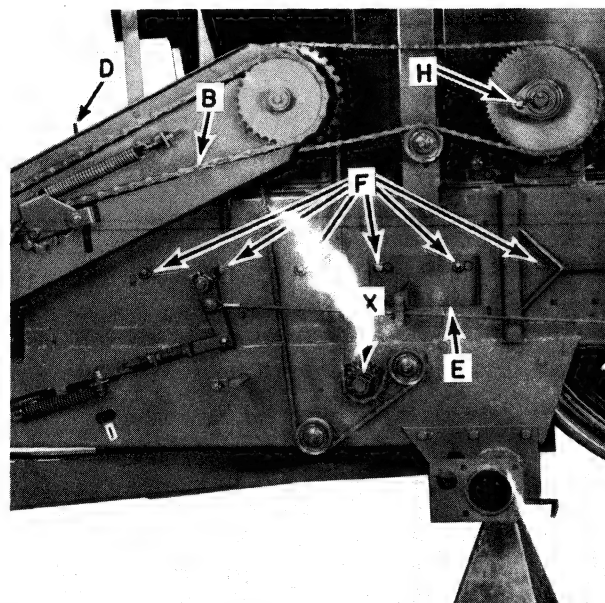
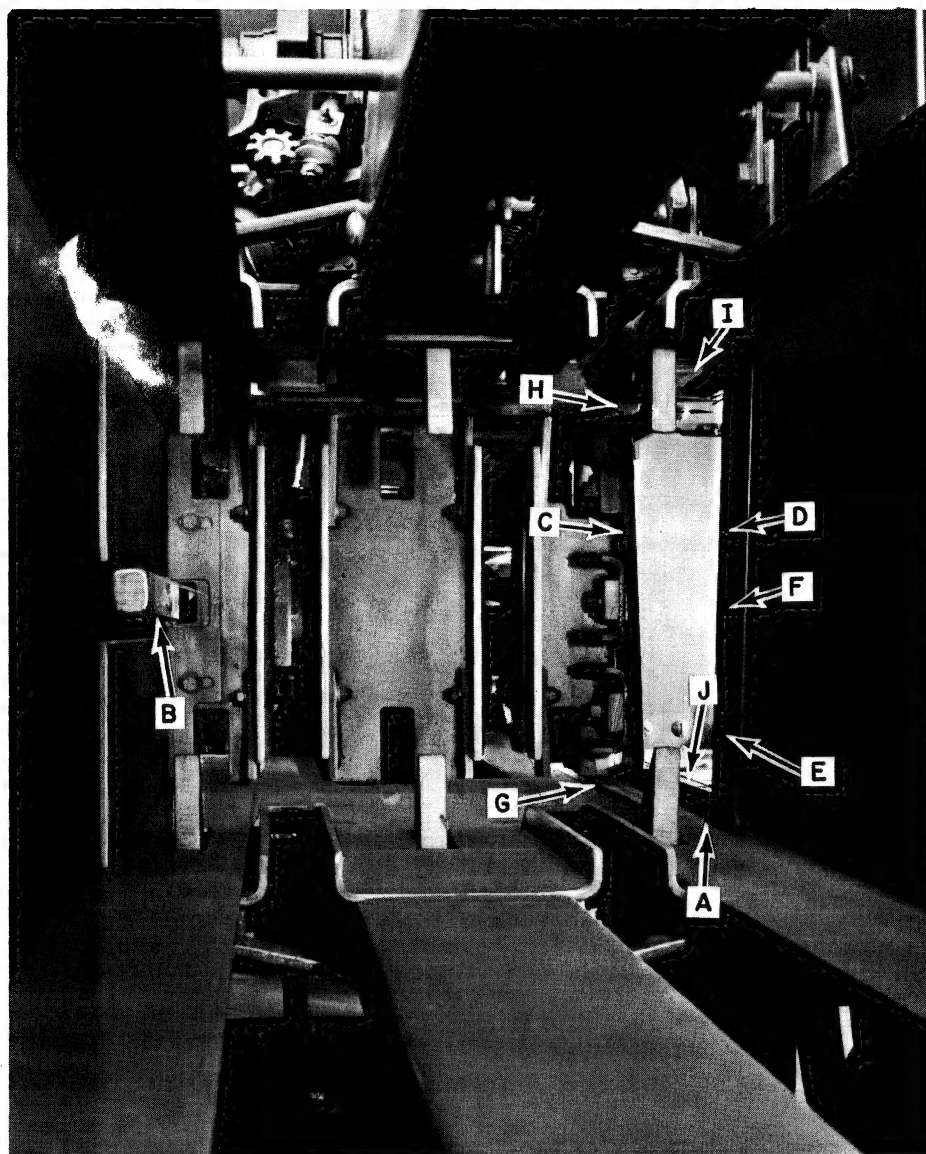
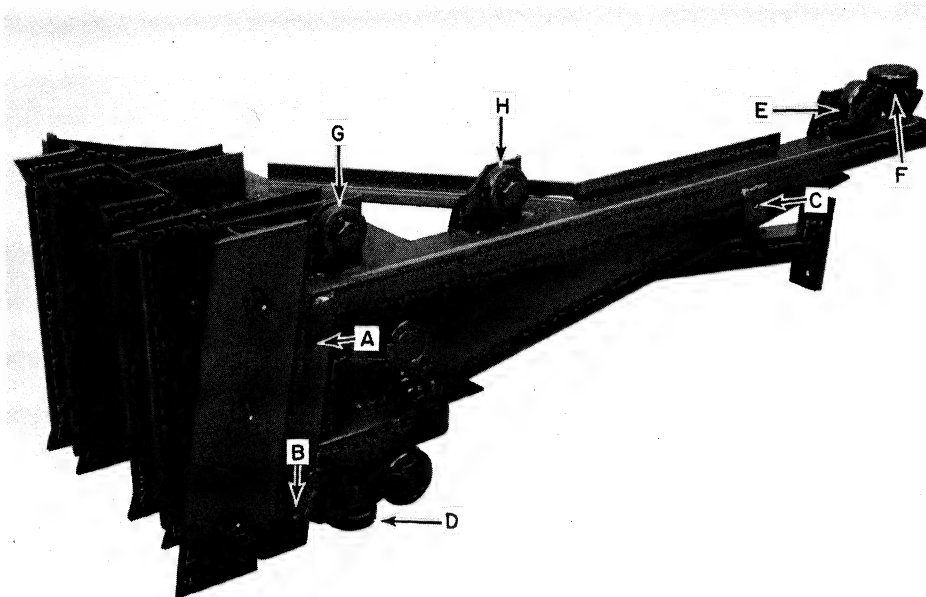
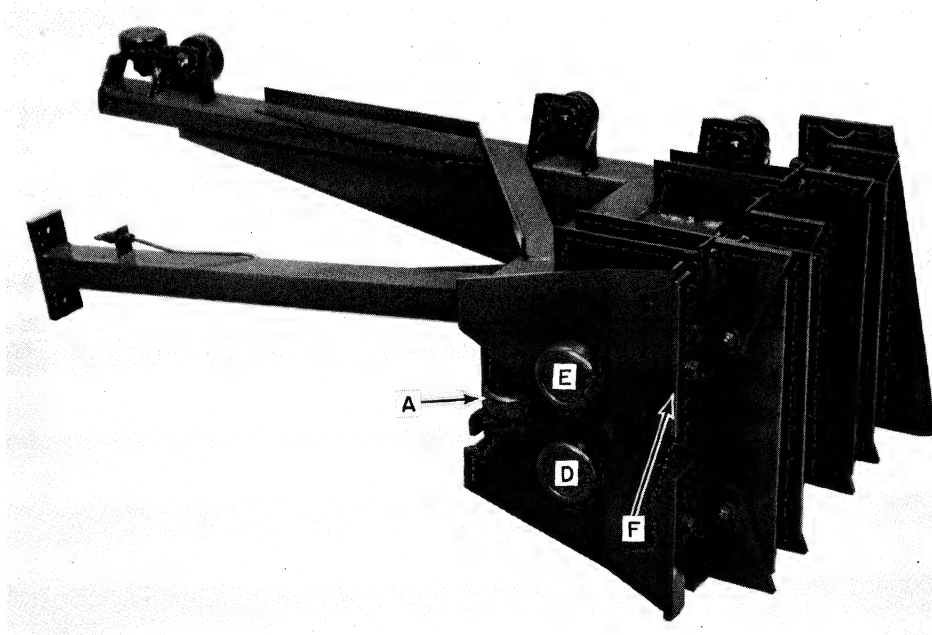

FIGURE 45
FIGURE 47
FIGURE 48
FIGURE 49
Your Model 320 Hayliner is equipped with a two-speed drive for the pick-up assembly, see sprocket, X, Figure 45.
To change pick-up speeds simply remove the sprocket from the shaft shown at X, Figure 45, turn it over and reinstall it on the shaft.
2. Remove the main drive chain. See B, Figure 45.
Install the main drive chain with the top drive chain as tight as possible and adjust the chain tightener so the spring length is 11 3/8" (298 mm). Do not adjust eye bolt holding spring — adjust bolt, D, Figure 45, to obtain proper spring length.
When properly adjusted, distance between the knife mounted on the plunger at C, Figure 47, and the stationary knife, D, Figure 47, should be from 0.010"-0.030" (0.3-0.8 mm) when measured at the points where the knives cross near the bottom, the center, and the top.
Figures 48 and 49 show the plunger removed from the baler. In Figure 48, bearings, D, G and H, are adjustable. In Figure 49, bearings, D and A, are adjustable.
1. Install the stationary knife to the bale case as shown at D, Figure 47.
2. Lay a straight edge along rail, J, Figure 47, and measure the distance between the straight edge and lower portion of the knife at A, Figure 47. There should be between 0.005"-0.015" (0.1-0.3 mm) clearance between the straight edge and bottom of the knife. Remove or install shims as required under bolt, F, Figure 47, until the correct clearance is obtained.
3. Install the knife on the plunger as shown in Figure 48, using two of the thin shims between the knife and knife supports on the plunger. Tighten the bolts to 82 ft. lbs. (111 N·m) torque.
6. Check the clearance between the top of the plunger and the top of the bale case on the top right hand corner of the plunger. This distance should be from $\frac{1}{8}$ "- $\frac{1}{4}$ " (0.3-0.6 mm) from the top of the bale case. If the clearance is more than $\frac{1}{4}$ " (0.6 mm) shims are available to install under rail, G, Figure 47.
7. After obtaining the correct clearance on the top right of the plunger, check the clearance at the top left side of the plunger. Adjust rail, B, Figure 47, until the top of the plunger is parallel with the top of the bale case. Bolts, F, Figure 45, are used for this purpose. Be sure that rail, B, Figure 47, is parallel to the bottom of the bale case so that the plunger does not try to twist as it moves through its cycle.
8. Bearing, D, Figure 49, should be adjusted vertically so there is from 0.010"-0.030" (0.3-0.8 mm) clearance between bearing, D, Figure 49, and rail, B, Figure 47.
9. Adjust rail, A, Figure 51, so the clearance between bearing, E, Figure 48, and rail, C, Figure 51, is 0.010"-0.030" (0.3-0.8 mm). Bolts, A, Figure 52, are used for this adjustment.
10. Adjust rail, B, Figure 51, so there is 0.010"-0.030" (0.3-0.8 mm) clearance between the bearing, F, Figure 48, and rail, B, Figure 51. Bolts, B, in Figure 52, are used in this adjustment.
11. Adjust bearing, D, Figure 48, so there is 0.005"-0.015" (0.1-0.3 mm) clearance between the tip of the knife and the rail, J, Figure 47. Be sure that bearing, D, Figure 48, is against the rail, J, Figure 47, when checking the clearance.
12. Bearing, A, Figure 49, should now be adjusted to rail, B, Figure 47. Access to the bearing is obtained through a hole in the side of the bale case as illustrated in Figure 50. Loosen lock nut, B, Figure 50, and rotate cam, C, Figure 50, to adjust bearing, A, Figure 49, to within 0.010"-0.030" (0.3-0.8 mm) clearance between the bearing and the rail, when bearing, D, Figure 48, is against rail, J, Figure 47.
14. Adjust bearing, H, Figure 48, to rail, H, Figure 47. The clearance between the bearing and the rail should not exceed 0.030" (0.8 mm) at any point in the plunger travel.
15. Adjust bearing, G, Figure 48, to rail, I, Figure 47. The clearance between bearing, G, and rail, I, should not exceed 0.030" (0.8 mm) at any point along that short rail.
16. The plunger shield may now be installed. It is secured with three bolts located at A, B and C, Figure 48.
17. Adjust plate, F, Figure 49, to the left so it clears the side of the bale case by 1/32" (0.8 mm) at the closest point of the plunger to the bale case throughout the plunger's travel.